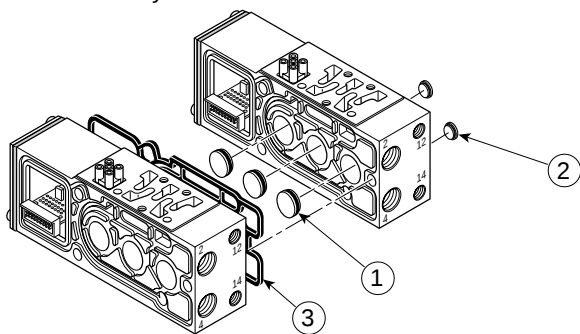

Figure 6
2. As displayed in Figure 6, use the large plugs (Item 1) from the service kits to isolate manifolds from the main gallery(s). The middle plug is used to isolate port #1 (inlet air supply), the left plug is used to isolate port #5 and the right plug is used to isolate port #3.